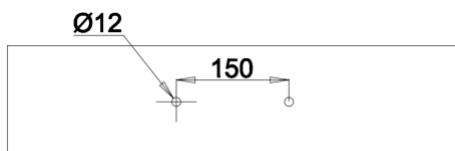
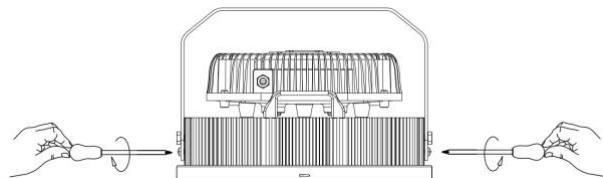

FIG.24
FIG.25
- 1) Drill two holes on the ceiling, diameter 12mm, 150mm distance, dismount the U shape bracket with screwdriver and wrench. (See FIG.24 and FIG.25)